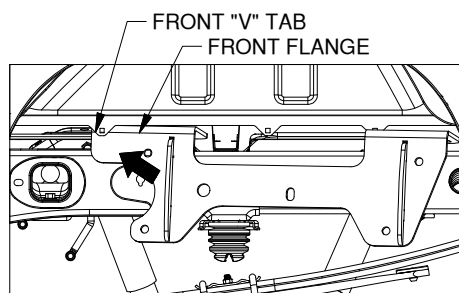
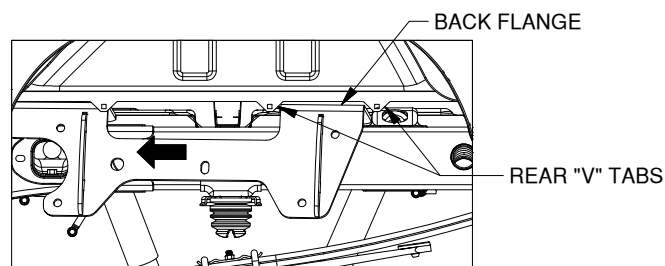
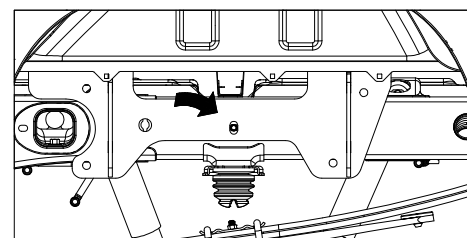
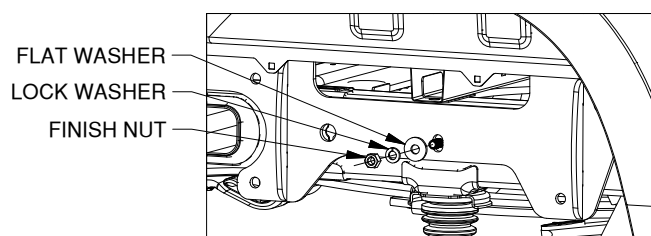

Figure C2: Angle front flange behind "V" tab.
Figure C3: Move side plate forward. (Long bed goes rearward.)
Figure C4: Center the side plate & rotate onto carriage bolt.
Figure C5: Attach side plate with hardware.
- 2a. (Short bed) Install driver side plate.** Angle the side plate so the front flange can go behind the front "V" tab of the bed flange, see Figure C2. Move the side plate forward, so the back flange can go between the two rear "V" tabs, as shown in Figure C3. Push the side plate rearward, and rotate onto the installed carriage bolt, see Figure C4. Attach side plate with a flat washer, lock washer, and finish nut. See Figure C5. Hand tighten hardware only at this time.
- 2b. (Long bed) Install driver side plate.** Angle the side plate so the front flange can go behind the front "V" tab of the bed flange, see Figure C2. Move the side plate rearward, so the back flange can go behind the rear "V" tab. Push the side plate forward, and rotate onto the installed carriage bolt, see Figure C4. Attach side plate with a flat washer, lock washer, and finish nut. See Figure C5. Hand tighten hardware only at this time.